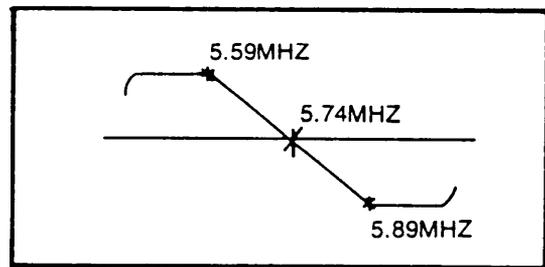

Fig 7. 5.74MHz SIF Response Curve
- 5) Adjust L601 to balance as shown in Fig 7.